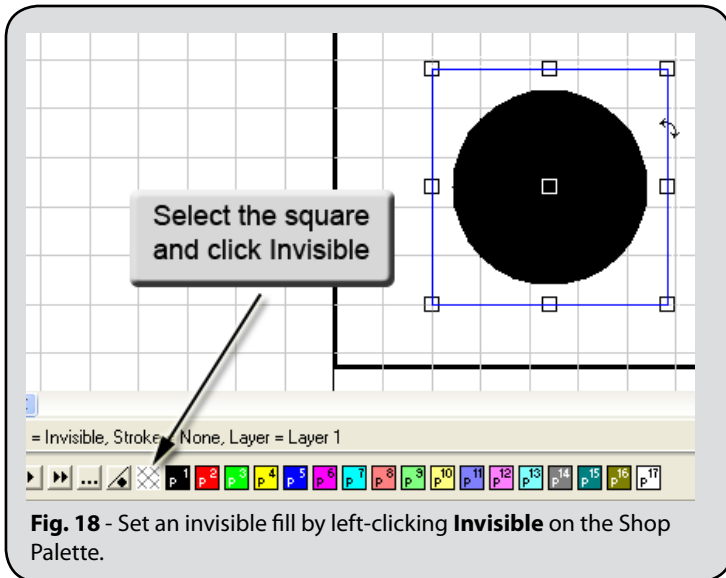

Fig. 18 - Set an invisible fill by left-clicking **Invisible** on the Shop Palette.
4. Draw a square shape around the circle and assign an **Invisible** fill to the square (Fig. 18).